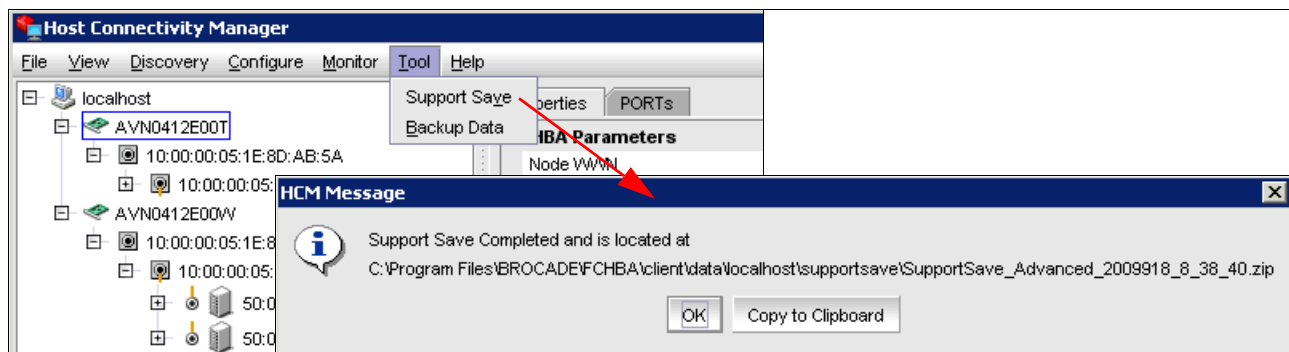

Figure 5-113 HCM Support Save
- ▶ In HCM, launch Support Save from the Tools menu (see Figure 5-113).